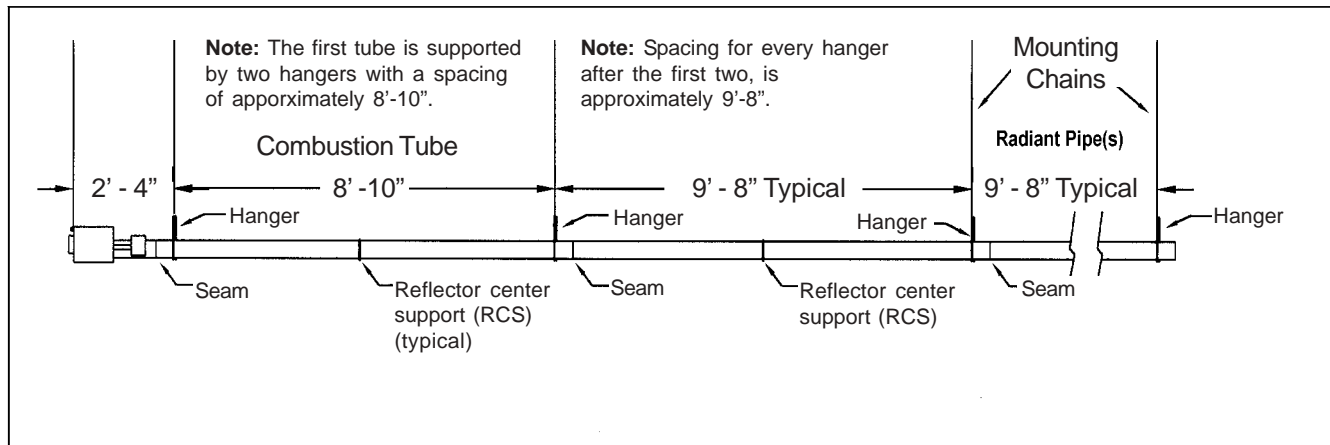

Fig. 2-8
1. Each unit is equipped with the necessary hangers for installation. If spacing does not allow for standard mounting, additional hangers (TP-19B) may be necessary. See figure 2-8 on page 13.
4. Two hangers support the first tube; one hanger per tube thereafter. The radiant tubes should be in straight alignment and level to the ground. See figure 2-8.
5. Mount hangers. Spacing between burner box mounting brackets and the first hanger should be approximately 2ft. - 4in. (figure 2-8). Spacing between the first two hangers should be approximately 8ft. - 10in. so as to support the first tube. Spacing for every hanger thereafter should be approximately 9ft. - 8in.